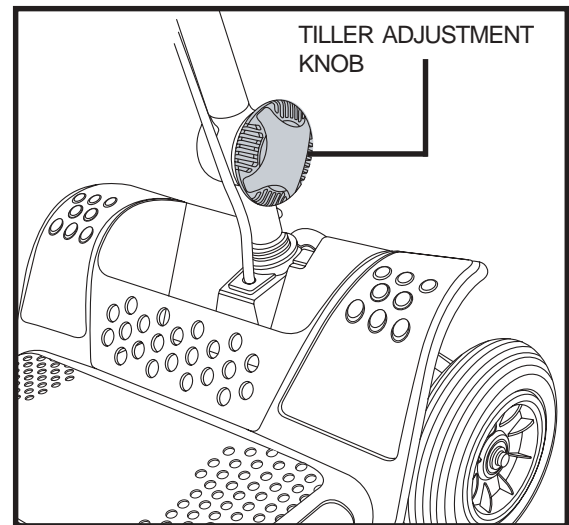

Figure 17. Tiller Adjustment Knob
1. While supporting the tiller, turn the tiller adjustment knob counterclockwise to loosen the tiller. **See figure 17.**